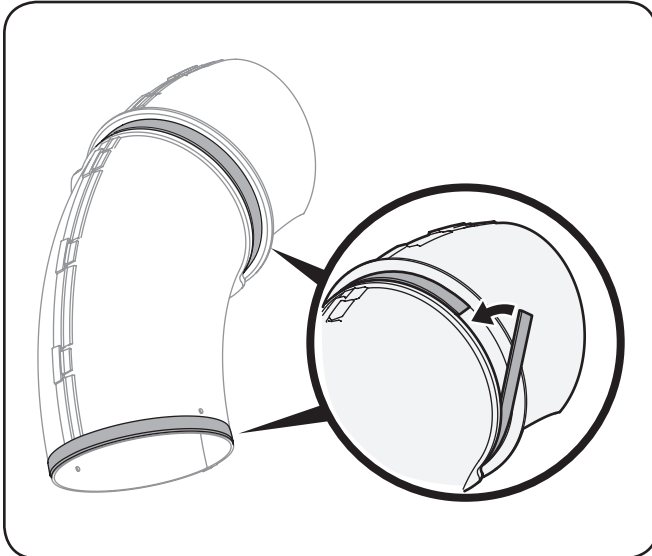

Figure 4-20
3. Peel the backing off of one of the self-adhesive foam strips (721-04388) that has been included with your grass collector. Apply it to the upper chute, flush against the flange as shown in Figure 4-20.
4. Peel the backing off of the other self-adhesive foam strip (721-04388) that has been included with your grass collector. Apply it to the bottom edge of the upper chute tube, flush against the edge as shown in Figure 4-20.